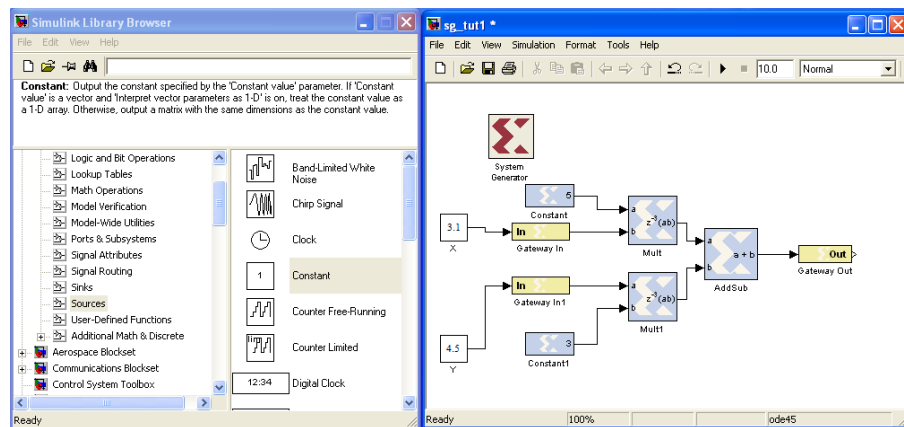

Figure 8: Adding a Simulink Constant to apply an Input to the System
- Inputs: Simulink provides several blocks that can be used as an input to models generated and simulated using Simulink environment. These blocks can be found under the following category: **Simulink**→**Sources**. From this category select **Constant** and place two constants in the model (the values should be 3.1 and 4.5 respectively). Connect these constants to the two input gateways of the system. We chose two arbitrarily values for the two constants as shown in Figure 8.